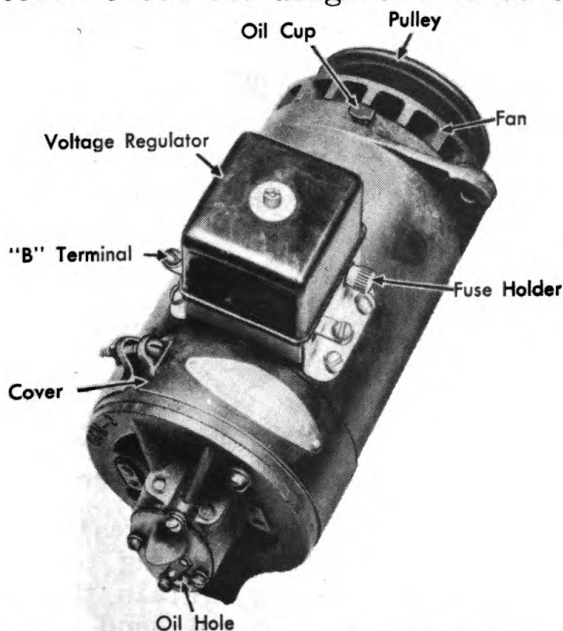

Figure 41. Battery Charging Governor and Voltage Regulator
77. The battery charging generator changes mechanical energy into electrical energy. It is the source of electricity for supplying the power for starting the engine and for the other engine accessories. The battery is not a source of electricity, but only a storage reservoir. See Figure 41.
The drive end ball bearing should be given three to five drops of engine oil through the oiler in the top of the end plate. Also fill the commutator end oil pocket with engine oil through the combination oil and overflow hole in the commutator end cap cover. See Figure 41.